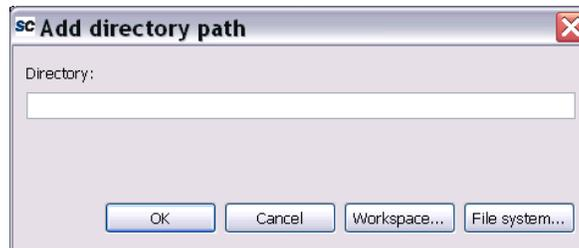

Figure 36 Select Workspace
3. The window is displayed, as shown in Figure 36. Click **Workspace**.